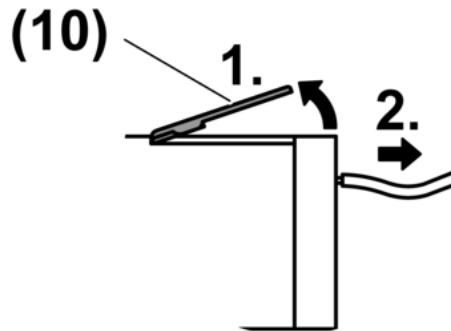

Figure 4: Disconnecting the plug-in terminal
- Raise release lever (10) as shown in the illustration (Figure 4) and pull out connecting cable.